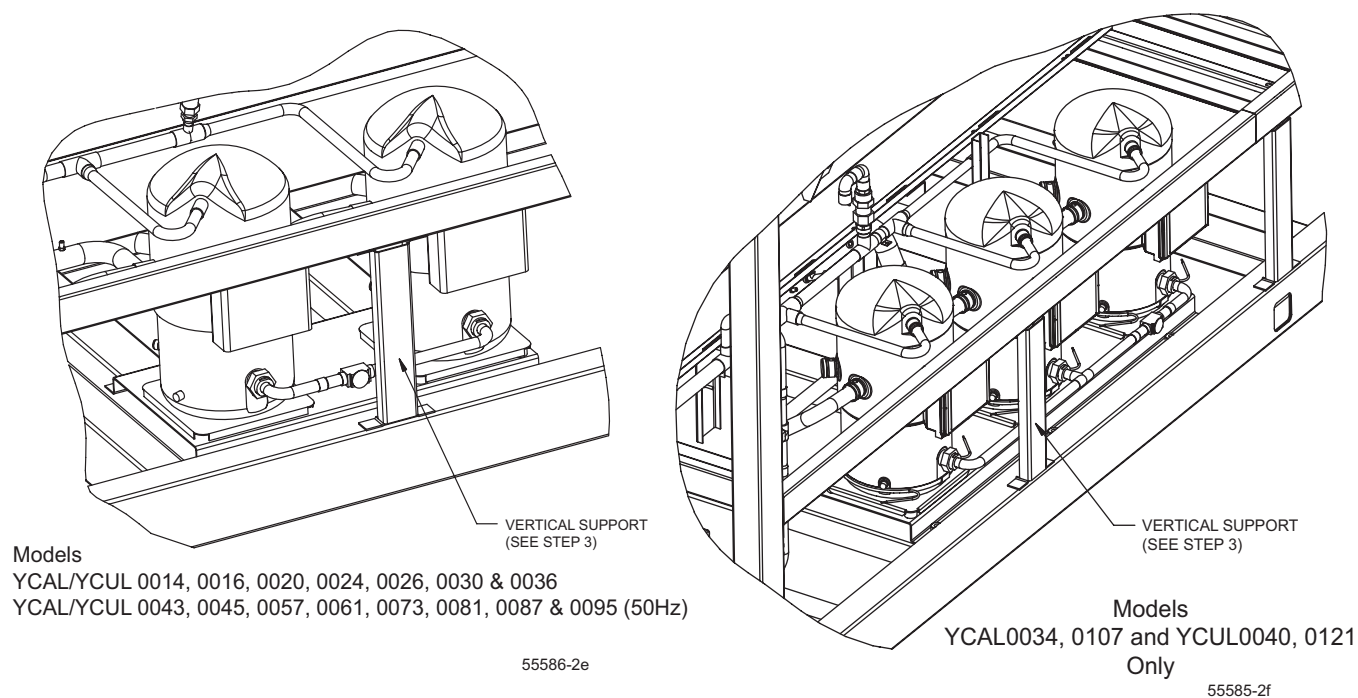

FIGURE 3 – FRAME RAIL REMOVAL
3. Temporarily remove the center vertical support from the frame rail on YCAL/YCUL models 0014-0040 and YCAL/YCUL models 0043-0121 (50Hz). The rail will later be notched and refitted. See FIGURE 3 below: